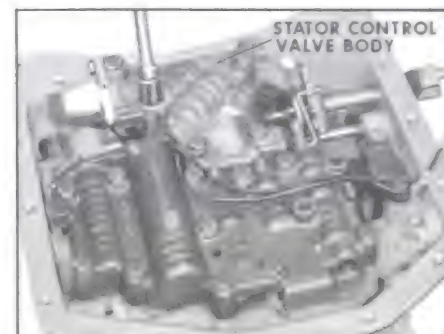

Figure 5-346
7. Install stator control valve body and seven (7) bolts retaining the stator control valve body. Torque bolts to 8-11 ft. lbs. See Figure 5-346.